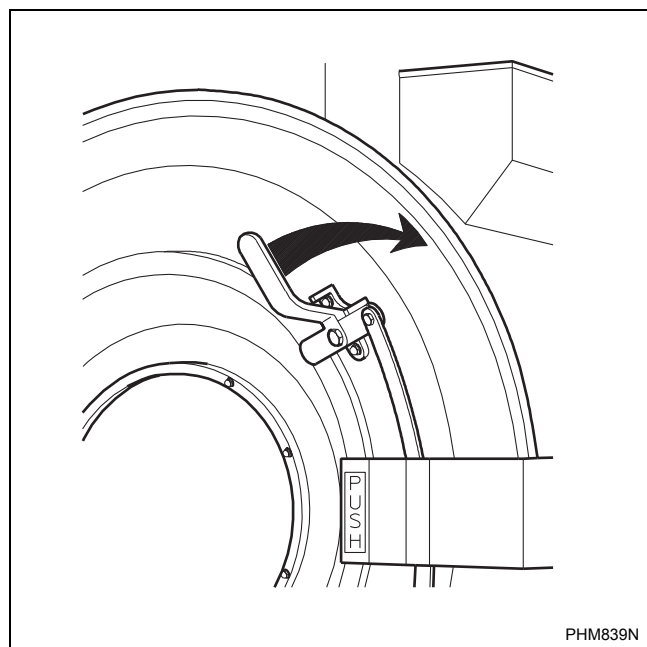

Figure 37
3. Turn the door handle clockwise and swing the door left to open it. Refer to *Figure 37*.